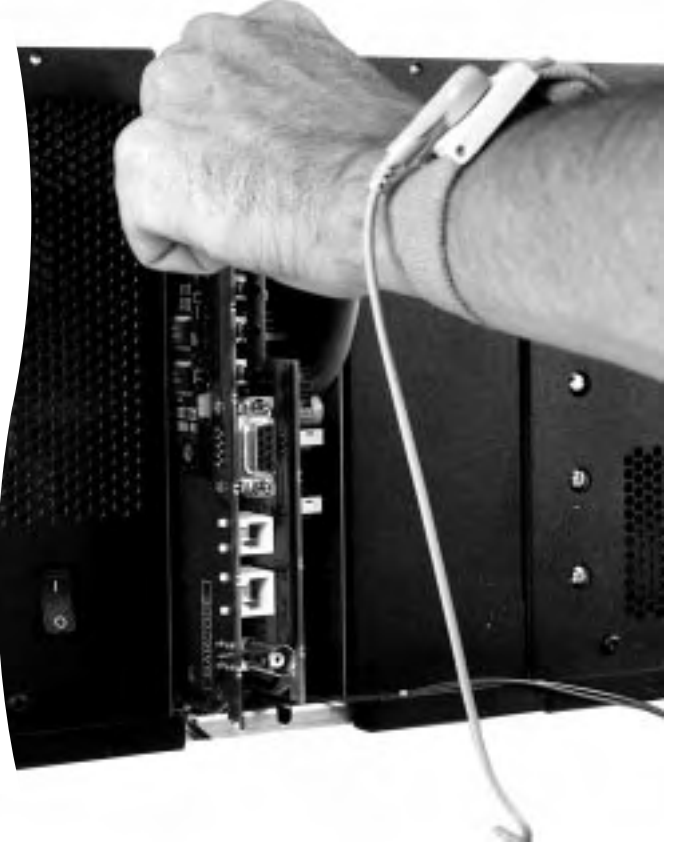

Figure 6. Removal Procedure for Station Control Board (Quantar VHF Station Shown)
- Step 5.** Using a Torx #15 driver, remove front panel and Station Control Board as described in Figure 6.
- Step 3.** Remove Station Control Module front panel and Wireline Interface Board as described in Figure 6.